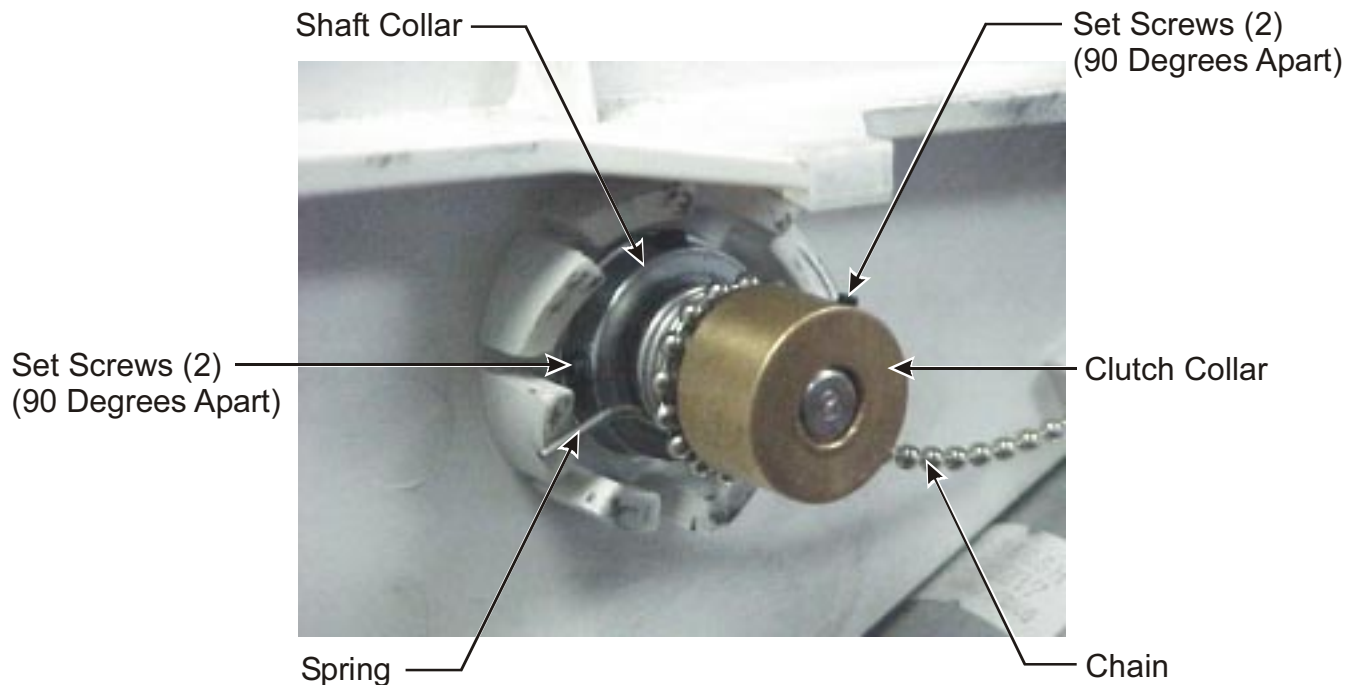

Figure 5.
22. Loosen the two setscrews in the clutch collar (see Figure 5.).